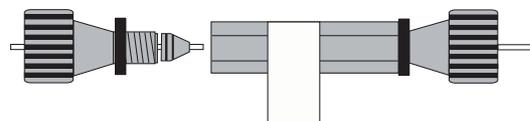

FIGURE C-9. Removing the Connecting Tubing from the Cartridge Holder
- Remove the connecting tubing from one side of the holder (FIGURE C-9).